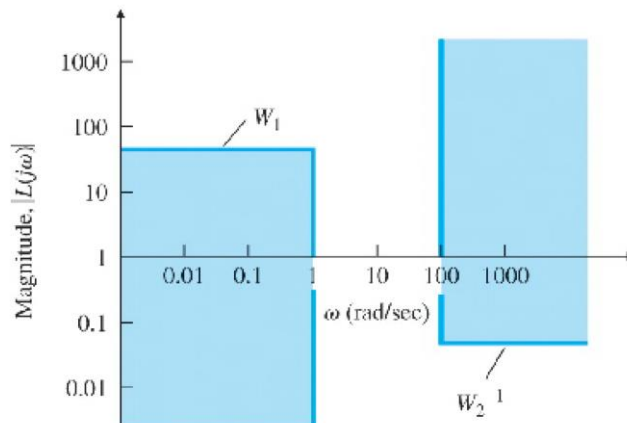

Fig. 6.102 Control system constraints for Problem 62
- (c) Show that a *sufficient* condition for meeting the specification on sinusoidal inputs is that the magnitude plot lies outside the shaded regions in Fig. 6.102. Recall that